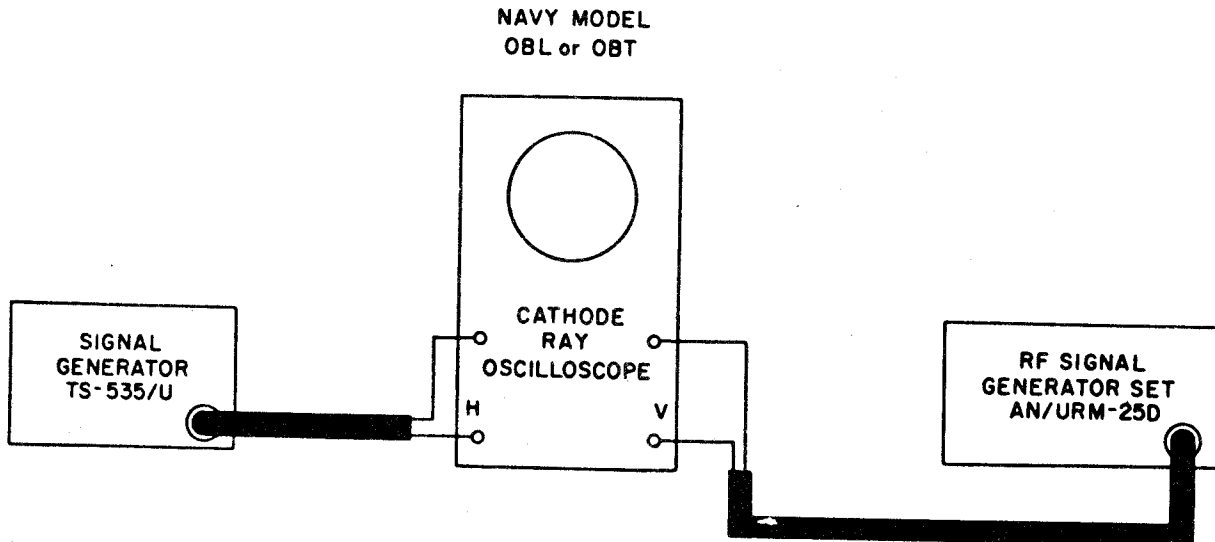

Figure 6-12. Method for Calibrating the RF Signal Generator Set AN/URM-25D at Frequencies Below 100 Kilocycles
(See figure 6-12).
(See figure 6-12 and Table 6-1).
(3) In using the heterodyne frequency meters referred to in paragraph 16 of this section, connect the output test cable (W104) to the heterodyne frequency meter. Plug a pair of earphones into the audio output of the frequency meter. Make the necessary capacitance and inductance adjustments while listening for a zero beat on the earphones.
(4) For calibrating frequency ranges below 100 kc, use the Signal Generator TS-535/U. Feed the output from the RF Signal Generator Set AN/URM-25D and Signal Generator TS-535/U to the horizontal and vertical inputs, respectively, of the oscilloscope, such as Oscilloscope OS-8/U, Navy Models OBL or OBT series (See figure 6-12). Adjust the frequency of the RF Signal Generator Set AN/URM-25D to the same frequency as the Signal Generator TS-535/U as indicated by a zero-shaped Lissajou pattern. Be sure to calibrate the Signal Generator TS-535/U according to its instruction book before using it as a standard in this procedure.
c. CALIBRATION PROCEDURE (See figure 6-12 and Table 6-1)
(1) To make the necessary RF trimmer and coil adjustments, it will be necessary to remove the top shield plate from the carrier oscillator compartment side of the casting which provides access to the trimmer condenser. It is also necessary to remove the screw plug from the casting to provide access to the oscillator coil. Identification of the appropriate coil and condenser is not necessary, since the correct components are automatically aligned with the access holes for each frequency band.
(2) The recalibration process consists of (a) adjusting the inductance for frequency calibration at the low-frequency end of the range, (b) adjusting the corresponding trimmer capacitor for a calibration point at the high end of the range, (c) rechecking the low end plus coil adjustment if necessary, (d) rechecking the high end if adjustment in step c is required, and (e) checking the center portion of range selected.
(3) After the adjustment has been made, replace the plate and plug and recheck calibrations. If the calibrations have been changed when this plate is replaced, readjust the applicable trimmer or core to compensate for this effect.
MODULATION CRYSTAL VOLTMETER	9. If the meter still does not respond to the % MOD-AUDIO OUT-XTAL CAL OUT control (R165), feed the output signal from the X-200K RF OUTPUT jack (J101) to a test oscilloscope. Set the carrier frequency at 100 kc. Place the MOD-XTAL & METER SELECTOR switch (S102) in the CW position. Advance the carrier control (R173) in a clockwise direction until a reading of "10" is obtained on the upper meter scale. With the external modulation applied as in par. 8 above, the modulated pattern should appear on the oscilloscope (figure 6-12). If it does, the trouble was in the modulation crystal voltmeter.